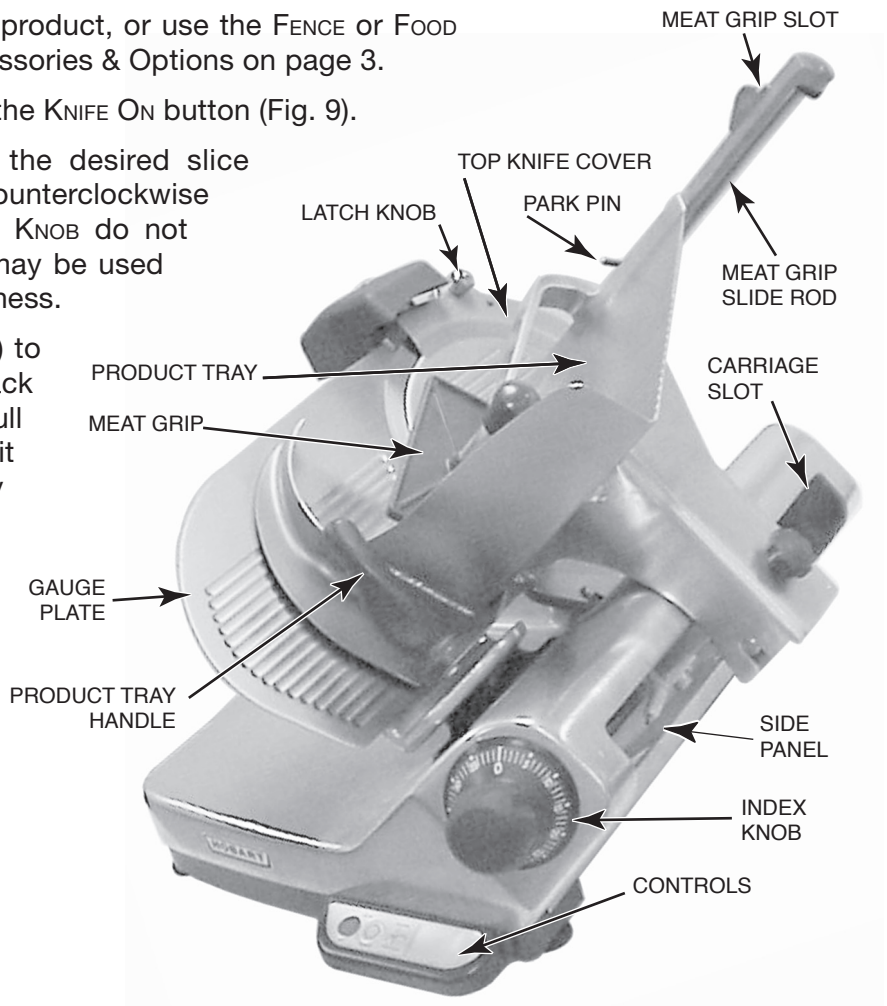
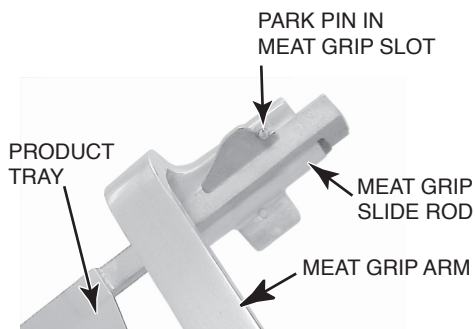

Fig. 7
Fig. 8
The TOP KNIFE COVER, and the plastic RING GUARD COVER underneath it, are shipped in place and secured with the LATCH KNOB on the TOP KNIFE COVER (Fig. 7).
To remove the TOP KNIFE COVER, turn the LATCH KNOB (Fig. 7) counterclockwise and lift the TOP KNIFE COVER off the three guide PINS (Figs. 5, 6). Remove the plastic RING GUARD COVER by lifting it from the guide PINS (Fig. 6).
Secure the RING GUARD COVER and TOP KNIFE COVER by turning the LATCH KNOB counterclockwise while lowering the TOP KNIFE COVER; then, release the LATCH KNOB and turn it clockwise until snug (Fig. 7).
- Close the GAUGE PLATE by turning the INDEX KNOB fully clockwise (Fig. 7).
- Pull the PRODUCT TRAY (Fig. 7) all the way toward you until it reaches its stop (this is the home position).
- Raise the MEAT GRIP to the top of the PRODUCT TRAY, and rest the PARK PIN in the MEAT GRIP SLOT (Fig. 8).
Adjust the GAUGE PLATE to obtain the desired slice thickness by turning the INDEX KNOB counterclockwise (Fig. 7). The numbers on the INDEX KNOB do not indicate actual measurements but may be used for reference to duplicate slice thickness.
Use the PRODUCT TRAY HANDLE (Fig. 7) to push and pull the PRODUCT TRAY back and forth to slice. When finished, pull the PRODUCT TRAY toward you until it stops. Turn the INDEX KNOB fully clockwise to close the GAUGE PLATE — this will turn the slicer off. You can also press the OFF button to stop the slicer.
Raise the MEAT GRIP to the top of the MEAT GRIP SLIDE ROD, and rest the PARK PIN in the MEAT GRIP SLOT (Fig. 8).
Use the PRODUCT TRAY HANDLE (Fig. 7) to push the PRODUCT TRAY back and forth to slice manually. When finished, pull the PRODUCT TRAY toward you until it stops. Close the GAUGE PLATE by turning the INDEX KNOB fully clockwise. Press the Off button to stop the slicer. Raise the MEAT GRIP to the top of the MEAT GRIP SLIDE ROD, and rest the PARK PIN in the MEAT GRIP SLOT (Fig. 8).
Remove the TOP KNIFE COVER by turning the LATCH KNOB (Fig. 7) counterclockwise and lifting the TOP KNIFE COVER free of the three guide PINS (Figs. 13, 14).
Carefully reassemble the plastic RING GUARD COVER by putting it in position using the three guide PINS (Fig. 14). Carefully reassemble the TOP KNIFE COVER (Fig. 13) by putting it in position over the plastic RING GUARD COVER using the three guide PINS. Secure both RING GUARD COVER and TOP KNIFE COVER by turning the LATCH KNOB (Fig. 7) counterclockwise while lowering the TOP KNIFE COVER; then release the LATCH KNOB and turn it clockwise until snug.
- Place the TOP KNIFE COVER on top of the RING GUARD COVER, aligning with the three guide PINS (Fig.13). Secure the RING GUARD COVER and the TOP KNIFE COVER by turning the LATCH KNOB (Fig.7) counterclockwise while lowering the TOP KNIFE COVER; then, release the LATCH KNOB and turn it clockwise until snug.